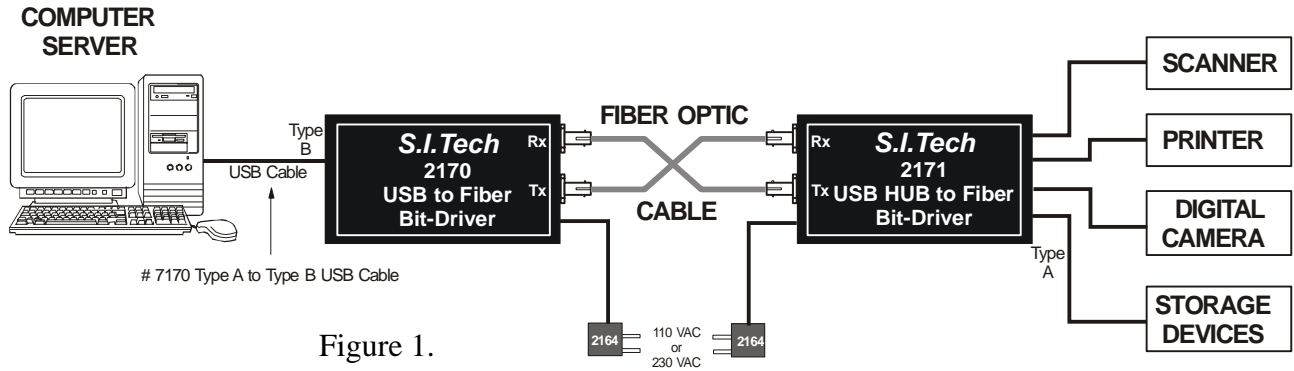

Figure 1.
S.I.Tech Models 2170 and 2171 come standard with ST connectors for both multimode and single mode. 2170 and 2171 are used in pairs. See typical application drawing Figure 1.